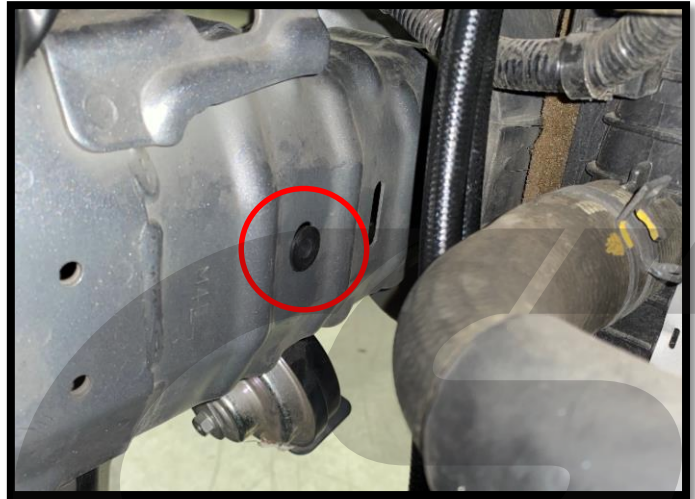

Figure 13c
- b) Insert the supplied rubber rivet-nut into this hole in the frame rail. GEN1 uses the smaller supplied rivet-nut, GEN2 uses the larger supplied rivet-nut. It will be a snug fit. You may need to angle the rivet nut and use the flexibility of the rubber to get it into position. Shown circled in red in Figure 13c.